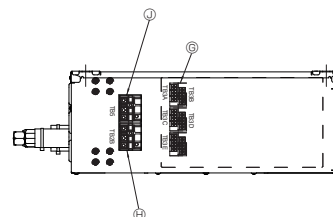

Fig. 4-2
■ PAC-MK53BC (Fig.4-2)
- (1) Install the suspension bolts (procure locally) at the specified pitch (Fig. 4-2, 4-3).